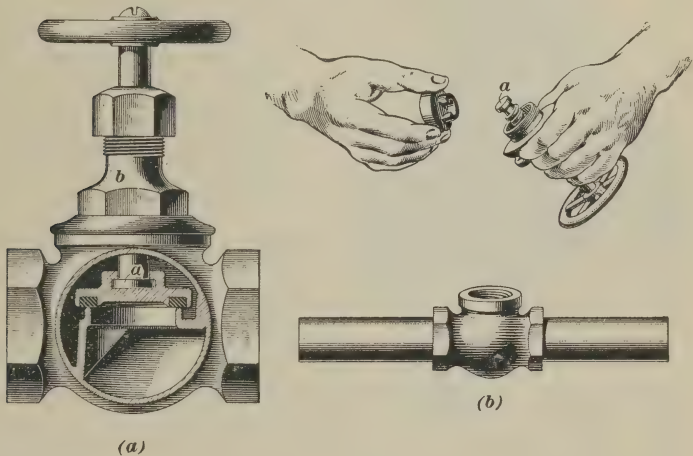

FIG. 68
**103.** The **Fairbanks valve** is somewhat similar in construction to the Jenkins, except that a composition ring of asbestos and vulcanite is pressed into the recess of the disk; when renewals are required, a complete new disk can be readily inserted, as the spindle is made with a shoulder *a*, Fig. 68 (*a*), fitting into a recess open on one side and on top
of the disk, which is held in position by guides inserted in the body of the valve. This is a *quick-repairing valve*, as upon removing the hub *b* the disk can be slipped off the spindle and a new one slipped on, as shown in Fig. 68 (*b*); hence, this valve is used extensively where repairs must be made without undue loss of time.